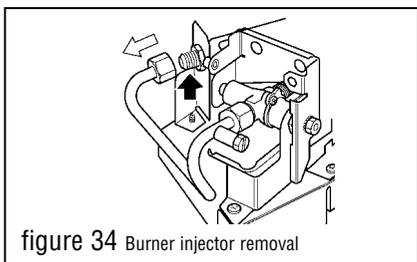

figure 34 Burner injector removal
- 10.10 To remove the main burner injector (see figure 34)**